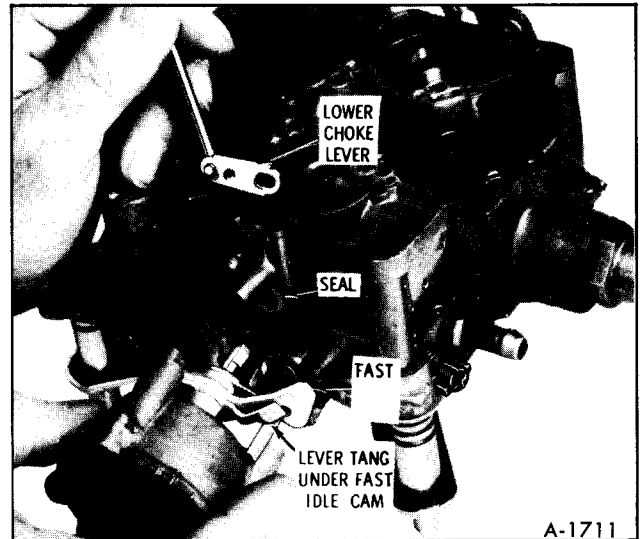

Figure 25—Lower Choke Lever
3. Remove throttle body to bowl insulator gasket. See Figure 25.
mediate choke shaft into lower choke lever. See Figure 25.